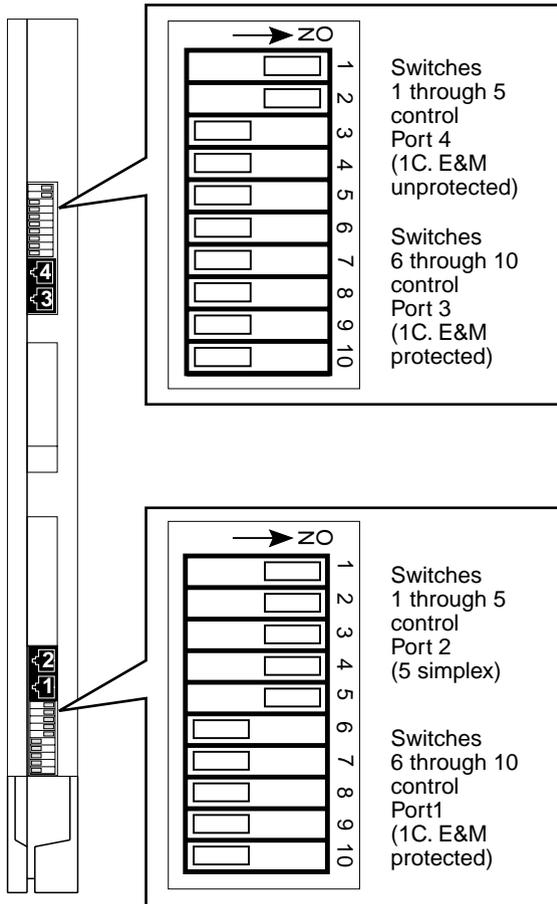

Figure 2-12. 400 E&M Module Sample Dip Switch Settings for Signaling Types 1C and 5
1. For each 400 E&M tie trunk module, for jacks numbered 1 through 4 in Figure 2-12, check Form 3c, Incoming Trunks: Tie, for E&M signaling type. Set the dual in-line packaging (DIP) switches on the front of the 400 E&M tie trunk module according to the E&M signaling type settings listed in Table 2-6 on page 2-41 and Table 2-7 on page 2-42 and shown in Figure 2-12 on page 2-44. The default E&M signal does not require any adjustments in the DIP switches.
During installation of 400 E&M modules, refer to Table 2-6 and Table 2-7, and to Figure 2-12 on page 2-44 for the correct DIP switch settings for varying signaling protocols.